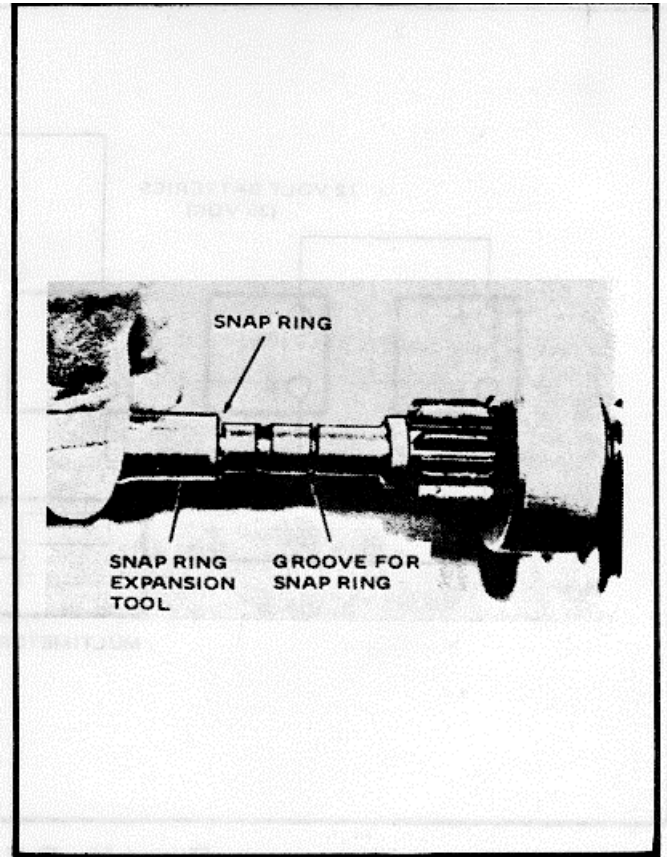
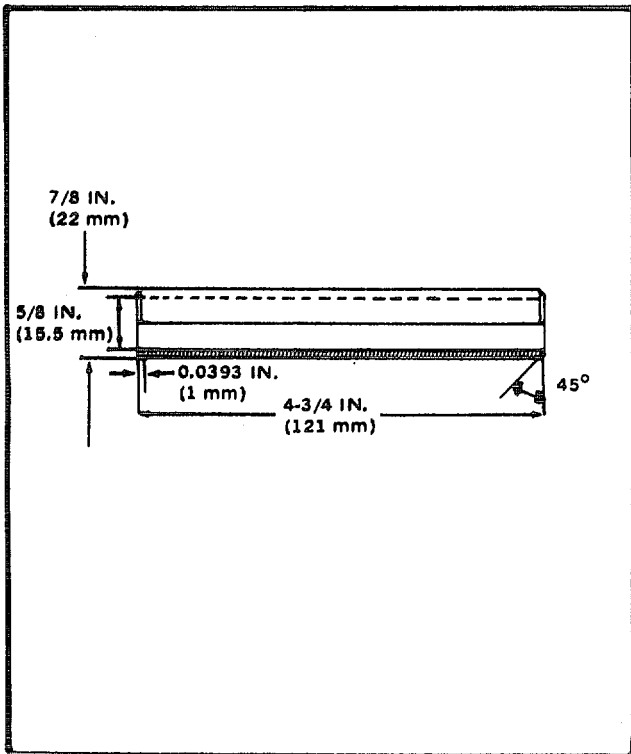

Figure 6-19. Assembling Snap Ring to Armature
Figure 6-18. Snap Ring Expansion Tool
- (1) Clamp armature (26) in a V-vise or equivalent. Coat threads on drive end of armature (26) with a thick coating of grease per Military Specification MIL-L 10294 or equivalent.
- (2) If replaced, press bearing (30) into bearing (29), slide bearing (29) over drive end shaft of armature (26). Press bearing (21) into pinion (20) and screw pinion (20) onto drive end shaft of armature (26). Slide bearing ring (11) onto armature (26) shaft and into pinion (20).
- (3) Fabricate a retaining ring expander tool as illustrated in figure 6-18. Slide snap ring (11) onto armature (26) shaft. Using expander tool, push snap ring (11) onto armature (24) shaft. See Figure 6-19.